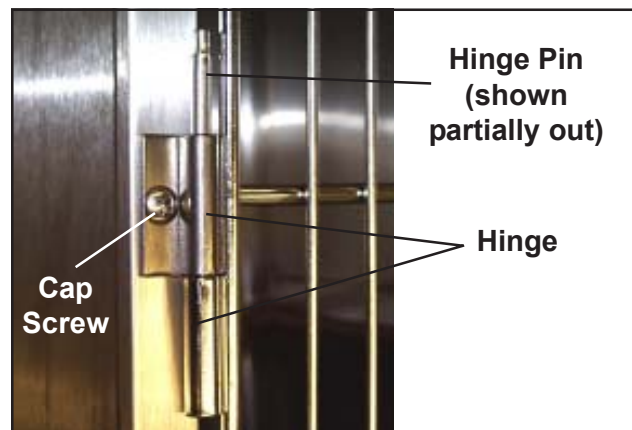

Figure 24. Door Hinge and Hinge Pin
3. With a Phillips screwdriver, remove the cap screws that hold the hinges to the cage, and remove the hinges (Figure 24).